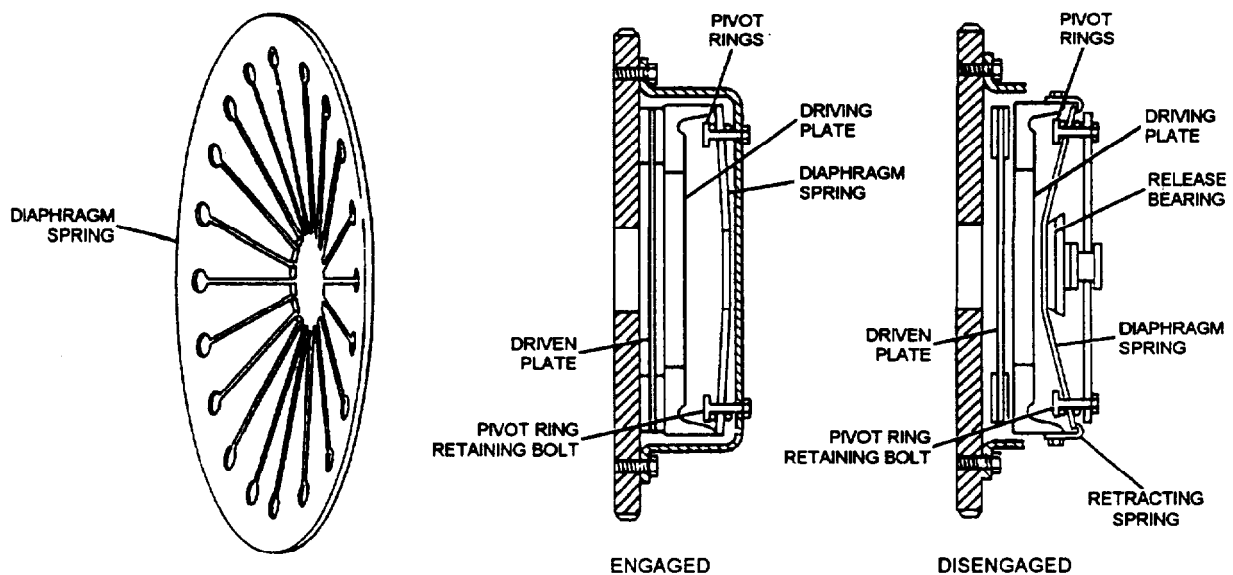

Figure 4-7.—Diaphragm pressure plate operation.
**Diaphragm pressure plate** (fig. 4-7) uses a single diaphragm spring instead of coil springs. This type of pressure plate functions similar to that of the coil spring type. The diaphragm spring is a large, round disc of spring steel. The spring is bent or dished and has pie-shaped segments running from the outer edge to the center. The diaphragm spring is mounted in the pressure plate with the outer edge touching the back of the pressure plate face. The outer rim of the diaphragm is secured to the pressure plate and is pivoted on rings (pivot rings) approximately 1 inch from the outer edge.